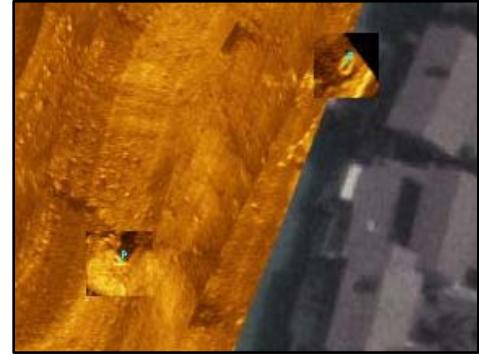

Figure 41. Contacts in Mosaic Window
- Right-click on a thumbnail/contact, hover over **Tags** and click the checkbox next to any tags to check it (Figure 41). Click anywhere outside the context menu to hide the menu.